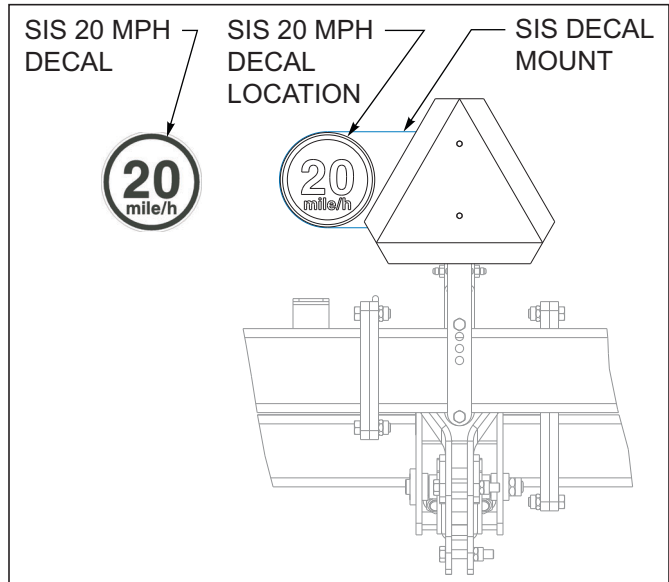

Figure 3-1: SIS 20mph Decal Installation
6. Install the smv, SIS decal bracket to smv mount with 1/4 x 1 bolts and 1/4 lock nuts. Install the SIS 20mph decal in location shown See Figures 3-1.
16. Install the smv, SIS decal bracket to smv mount with 1/4 x 1 bolts and 1/4 lock nuts. Install the SIS 20mph decal in location shown See Figures 3-1.